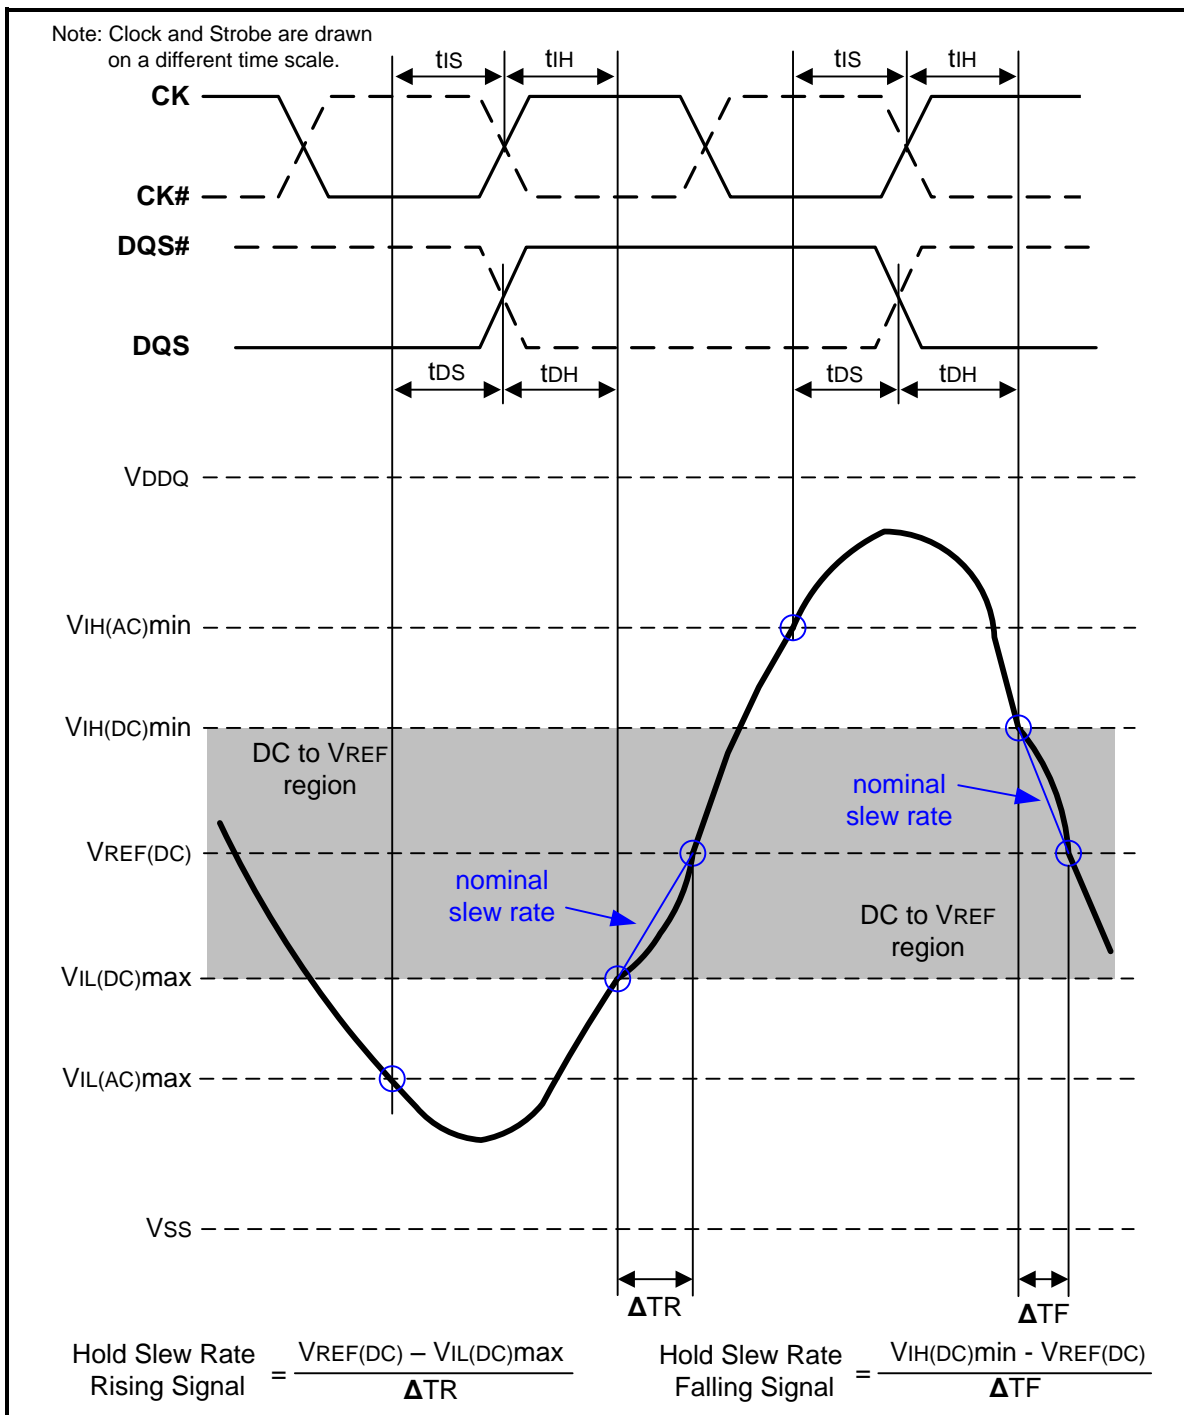
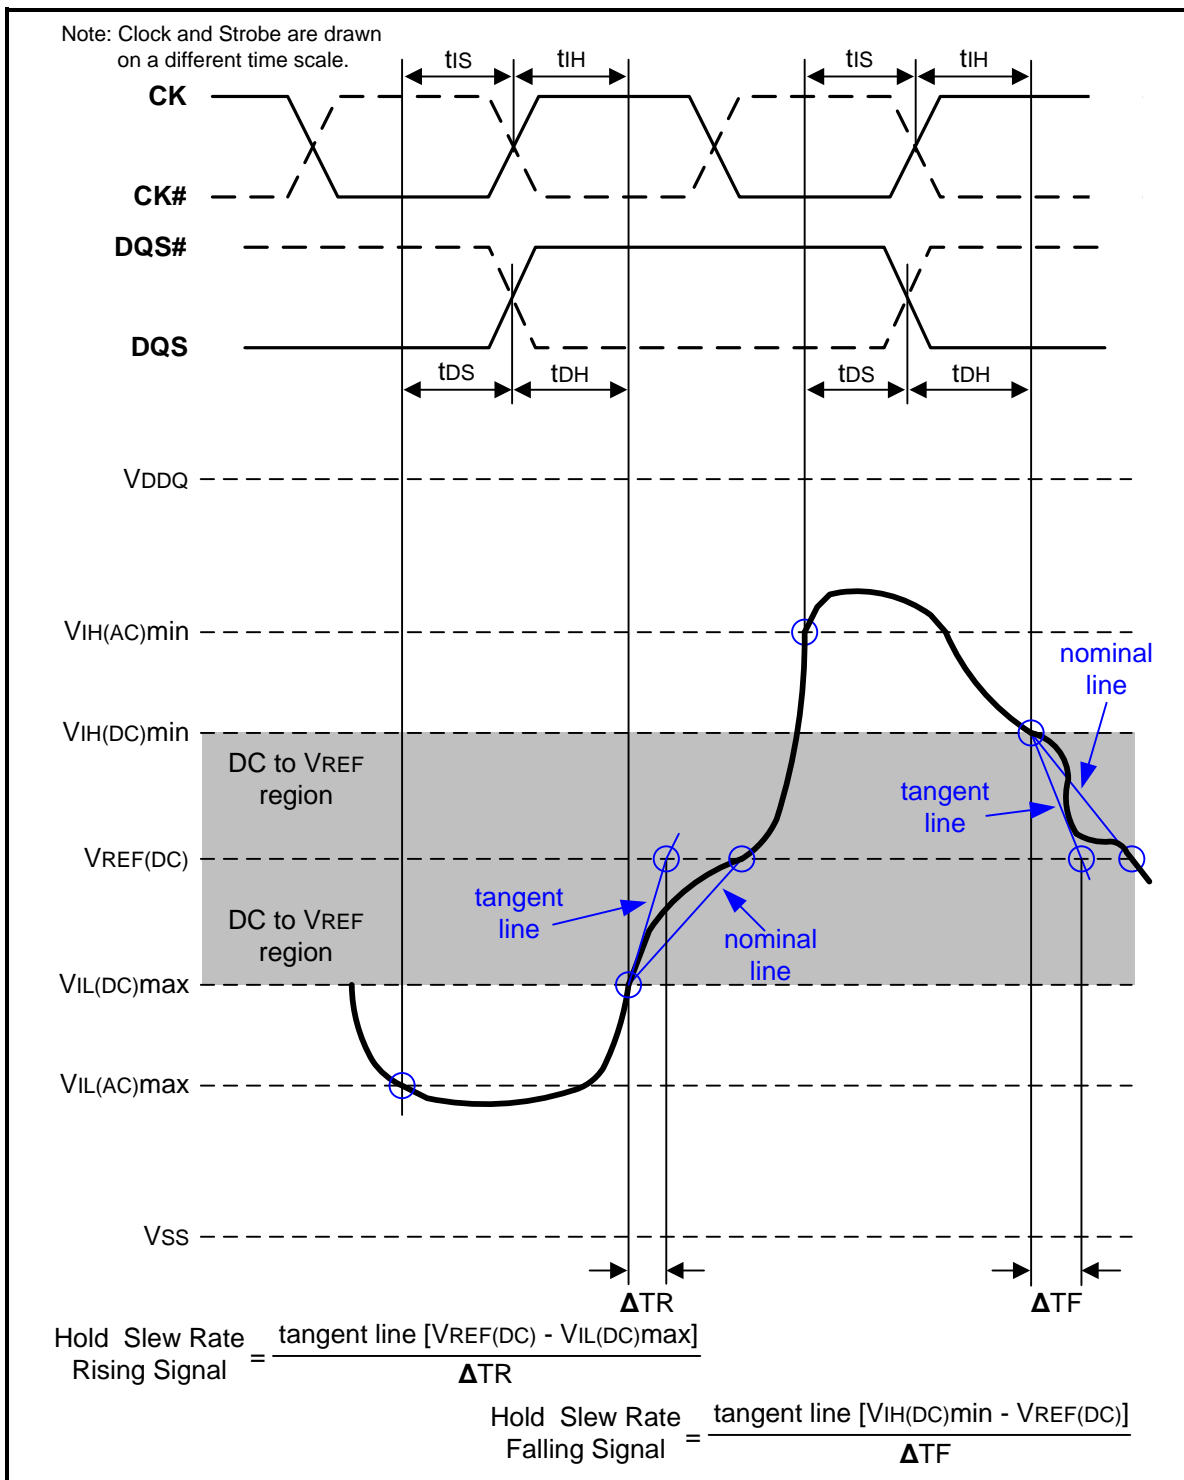

Figure 108 – Illustration of nominal slew rate for hold time tDH (for DQ with respect to strobe) and tIH (for ADD/CMD with respect to clock)
Figure 110 – Illustration of tangent line for hold time t_{DH} (for DQ with respect to strobe) and t_{IH} (for ADD/CMD with respect to clock)
Hold (t_{IH}) nominal slew rate for a rising signal is defined as the slew rate between the last crossing of $V_{IL}(\text{DC})_{\text{max}}$ and the first crossing of $V_{REF}(\text{DC})$. Hold (t_{IH}) nominal slew rate for a falling signal is defined as the slew rate between the last crossing of $V_{IH}(\text{DC})_{\text{min}}$ and the first crossing of $V_{REF}(\text{DC})$. If the actual signal is always later than the nominal slew rate line between shaded 'DC to VREF(DC) region', use nominal slew rate for derating value (see Figure 108). If the actual signal is earlier than the nominal slew rate line anywhere between shaded 'DC to VREF(DC) region', the slew rate of a tangent line to the actual signal from the DC level to VREF(DC) level is used for derating value (see Figure 110).
Hold (tDH) nominal slew rate for a rising signal is defined as the slew rate between the last crossing of VIL(DC)max and the first crossing of VREF(DC). Hold (tDH) nominal slew rate for a falling signal is defined as the slew rate between the last crossing of VIH(DC)min and the first crossing of VREF(DC) (see Figure 108). If the actual signal is always later than the nominal slew rate line between shaded 'DC level to VREF(DC) region', use nominal slew rate for derating value. If the actual signal is earlier than the nominal slew rate line anywhere between shaded 'DC to VREF(DC) region', the slew rate of a tangent line to the actual signal from the DC level to VREF(DC) level is used for derating value (see Figure 110).